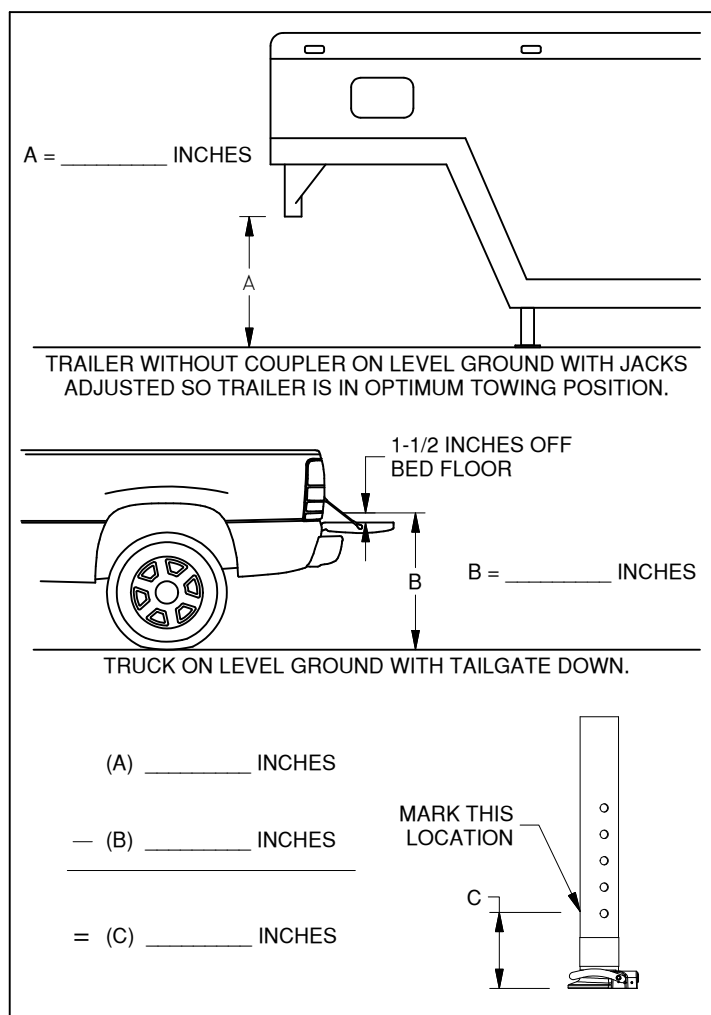

Figure A3: Coupler height determination.
- 2. Mark coupler.** With the trailer jacks adjusted so the trailer is in its optimum towing position, determine the distance between the bottom of the trailer sleeve and where the bottom of the coupler will be when coupled to the ball. See figure A3. Mark this position on the coupler.